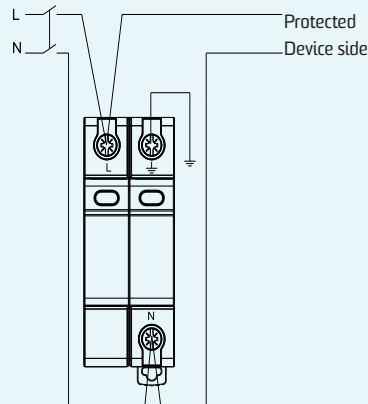
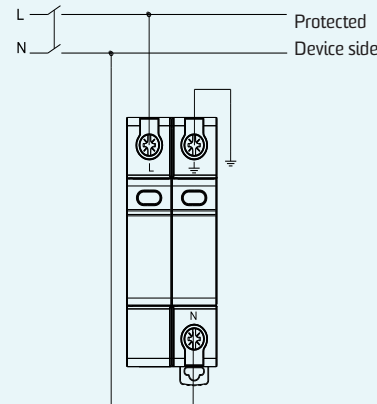

Figure 7-1 Wiring diagram -- V-shaped wiring
Figure 7-2 Wiring diagram -- conventional wiring
1. This product is installed and fixed with a 35mm standard DIN rail, and the V-shaped wiring shown in Figure 7-1 is recommended for wiring, or the conventional direct parallel wiring as shown in Figure 7-2 can also be used. In order to achieve a better protection effect, when using direct parallel wiring, the wiring should be as short as possible, and the total length should not exceed 0.5m.